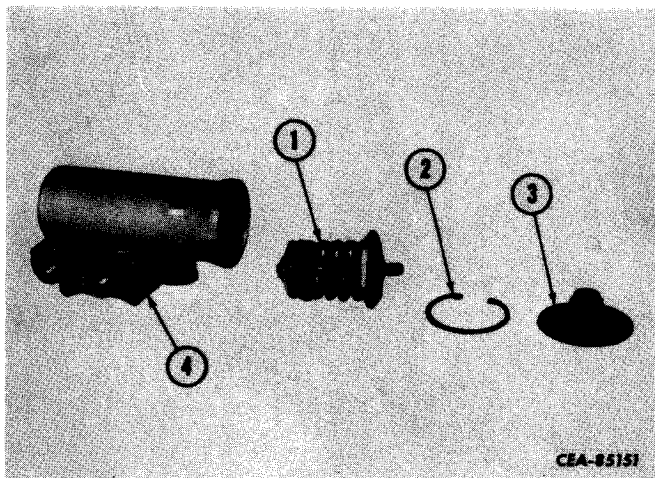

Figure 13-5
Unscrew cover (3, Fig. 13-5). Using snap ring pliers, remove retaining ring (2) from governor body (4). Slide adjusting screws and spring assembly (1) from body.
Slide piston assembly (1, Fig. 13-5) out of governor body (2).
Insert adjusting screw and spring assembly (1, Fig. 13-5) into governor body (4). Install retaining ring (2) with snap ring pliers. Screw cover (3) in place.